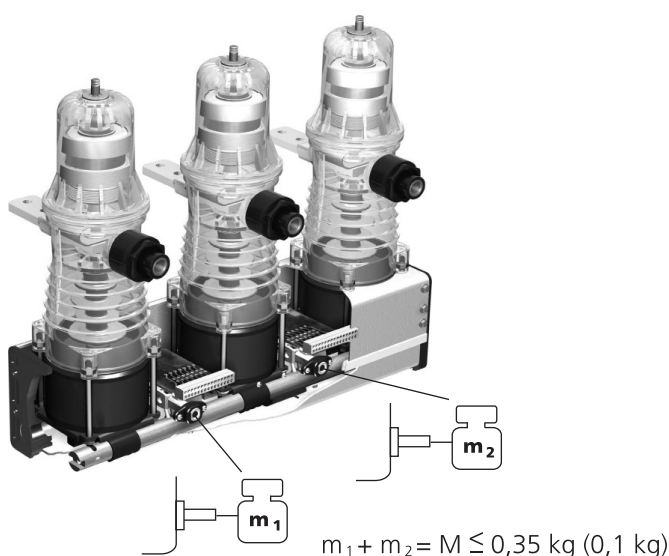

Figure 32
- If the interlocking mechanism is attached to one of the interlocking pins, the weight of the directly attached movable part to the interlocking pins shall not exceed 0.35 kg. Exception is the ISM15\_LD\_1(55F) series, where the attached movable part shall not exceed 0.1 kg. If both interlocking pins are used, the sum of the attached weights shall not exceed 0.35 kg respectively 0.1 kg (Figure 32).